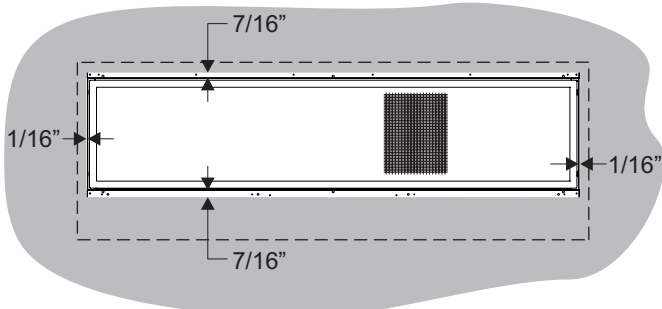

**Figure 42** - Rough Opening for Installing in Corner
- Use dimensions shown in **Figure 42** for corner rough opening. Be sure to provide gas line and electrical power for fireplace assembly.